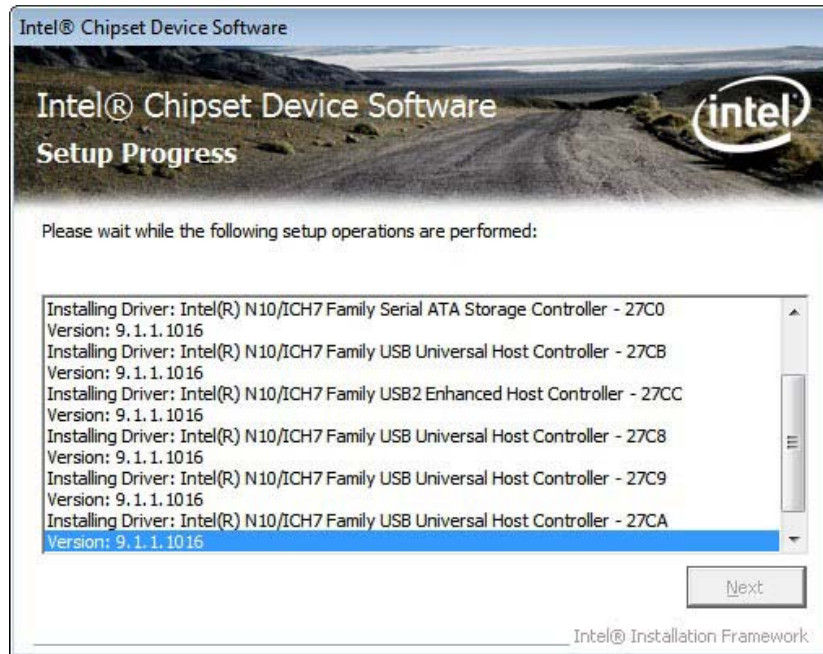

Figure 6-7: Chipset Driver Setup Operations
Step 14: Setup Operations are performed as shown in Figure 6-7.